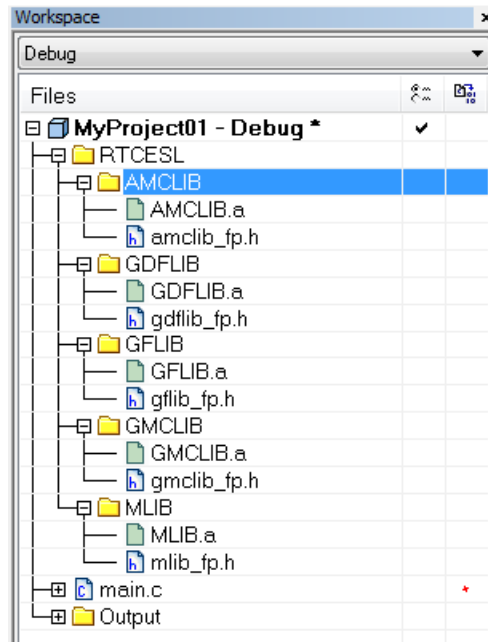

Figure 1-33. Project workspace
4. Click on the newly created node MLIB, and go to the main menu Project > Add Files... See Figure 1-33.
23. Now you will see the files added in the workspace. See Figure 1-33.